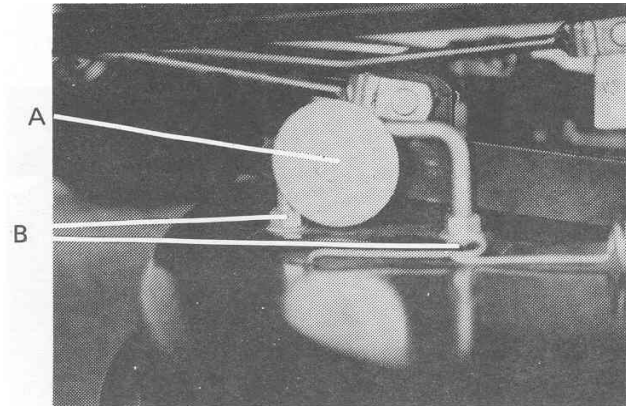

Fig. 12
1. Disconnect Push Rods & Brake Rod Fig.12
2. Remove tensioning spring. A loop has been provided on the spring to assist in this operation; See Fig.12
4. Undo large retaining washer bolts (A) Fig.12. This will allow front of deck to be lowered to ground.